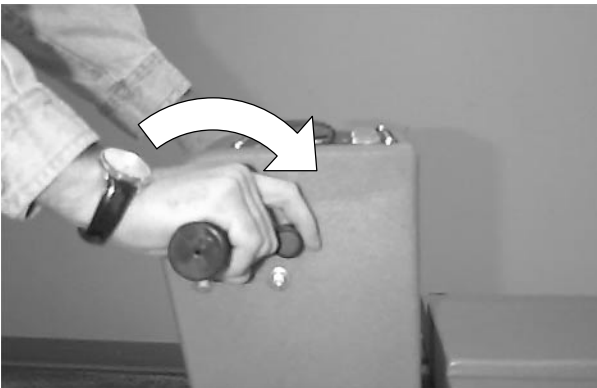

FIG. 12
4. Twist control grips forward to begin burnishing. Gradually turn speed control knob to desired cleaning speed (Figure 12).